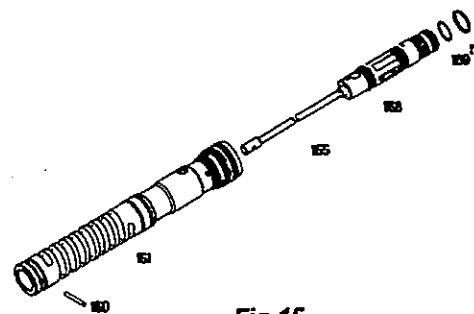

Fig.15
Mark position of valve slide (168) and worm (161) (Fig.15).